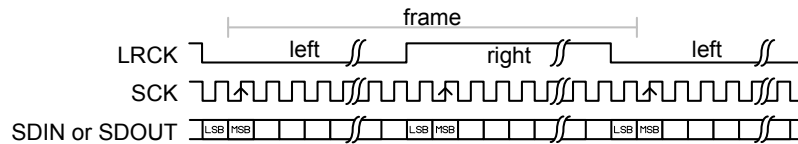

Figure 66: I2S format. Identical sample width and half-frame width. Left sample on low level of LRCK
- When using I2S format, the first bit in a half-frame (containing one left or right sample) gets sampled on the second rising edge of the SCK after a LRCK edge, as illustrated in Figure 66: I2S format. Identical